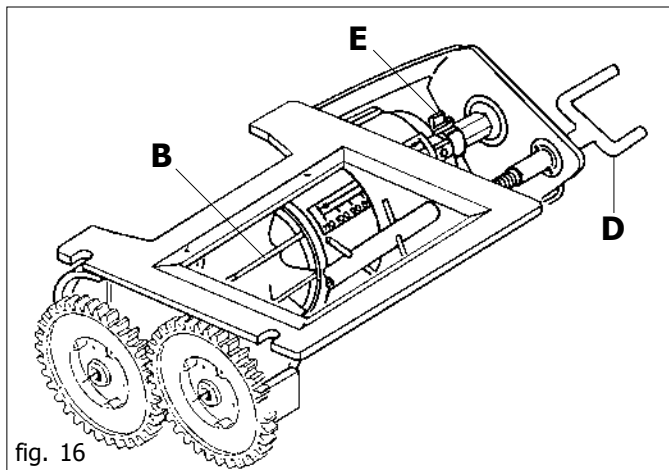

fig. 16
**Do not close the gate when there are seeds inside the doser: this would result in the dosing parts being broken.** The locking spring (E fig. 16) enables the opening range of the gate to be modified which, in turn, modifies the capacity of the dosing roller at the same time.